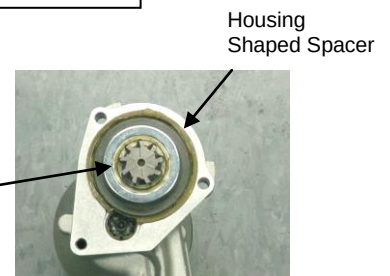

Figure 3
7. Check ring gear clearance and backlash (figures 1 and 2). Add shims and/or spacers to starter if necessary to obtain proper clearance. **Note: Housing Shaped & Round Spacers must be used together as a set. See figure 3 for proper placement location.**
Spacer installation Remove rectangular mounting block and place the 2 spacers as shown on figure 3 and re-assemble mounting block.